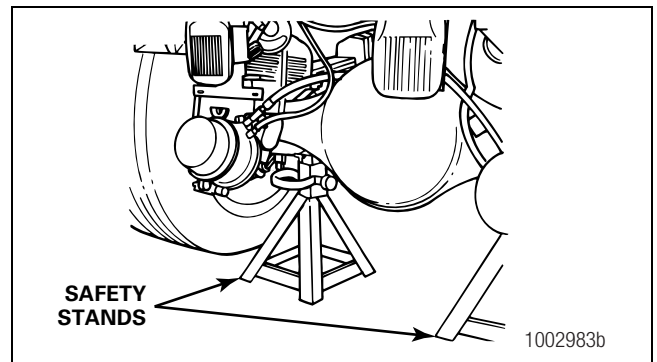

Figure 3.4
1. Park the vehicle on a level surface. Block the wheels to prevent the vehicle from moving. Figure 3.4.
2. Use a jack or other lifting tool to raise the vehicle so that the wheels to be serviced are off the ground. Support the vehicle with safety stands. Figure 3.4.